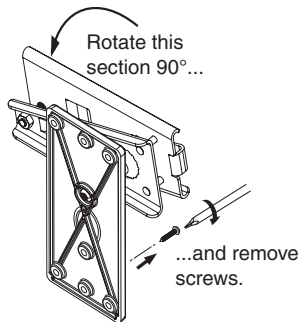

Figure 3 — Remove the old V-Lock Assembly
4. Rotate the stage (V-lock groove) 90 degrees to the wall plate (see figure 3), to access the screws in the wall plate.
- Remove a new V-Lock™ assembly from its box, loosen the hex cap screw and rotate the front section approximately 90 degrees to the mounting plate, (see figure 3). Lightly tighten the hex cap screw to temporarily lock it in position, allowing access to the mounting holes in the wall plate.